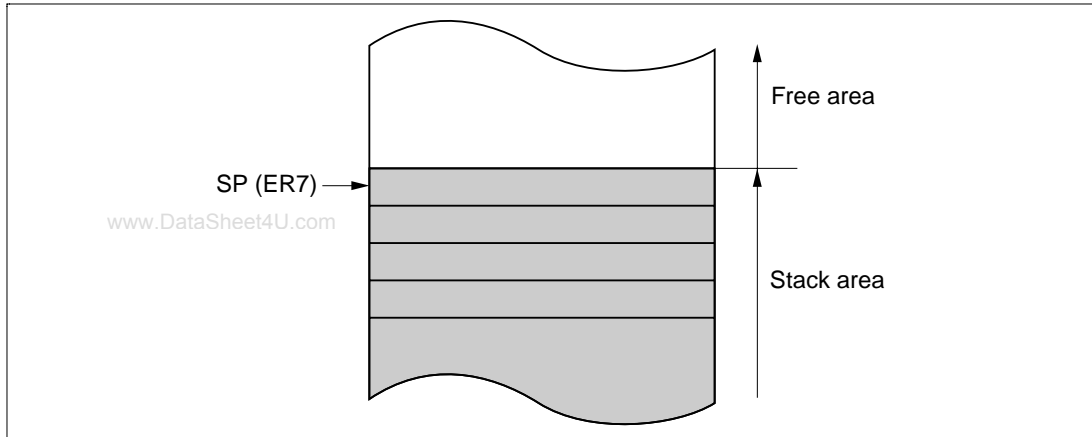

Figure 2.9 Stack
General register ER7 has the function of stack pointer (SP) in addition to its general-register function, and is used implicitly in exception handling and subroutine calls. Figure 2.9 shows the stack.